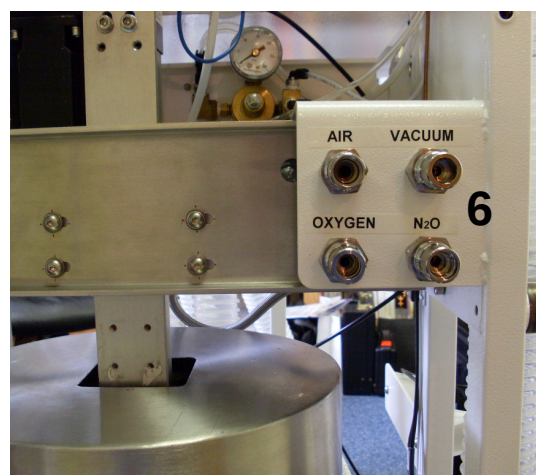

Figure 6
When using a piped evacuation line, connect the pipe to the piped outlet at the back of Tafonius (6), below the level of the rear door on the right hand side – Figure 6. The front scavenging flow meter on the front of the machine can then be used to set the rate of gas withdrawal.